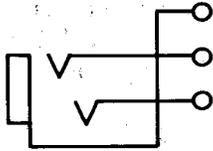

Fig. 26—544A Jack
2.22 **544A:** (AT&T Special) The 544A is a single-mounted jack (Fig. 26) designed for the 310 or similar-type plugs, and mounted with the springs in a vertical plane. This jack is provided with a feature for minimizing the possibility of shorting the tip and ring springs when a plug is inserted. The 238-type jacks are recommended for general use. The 544A jack is used in the J1G000 Digital Data System.